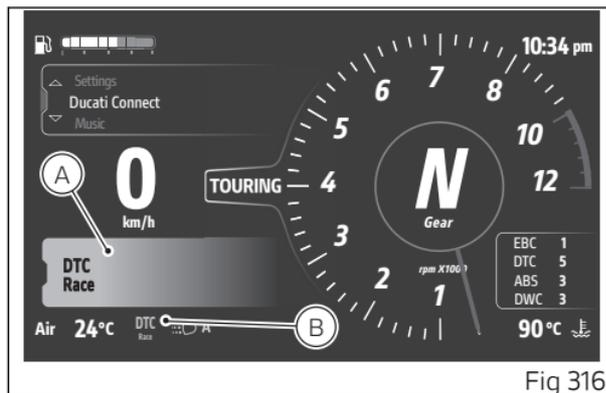
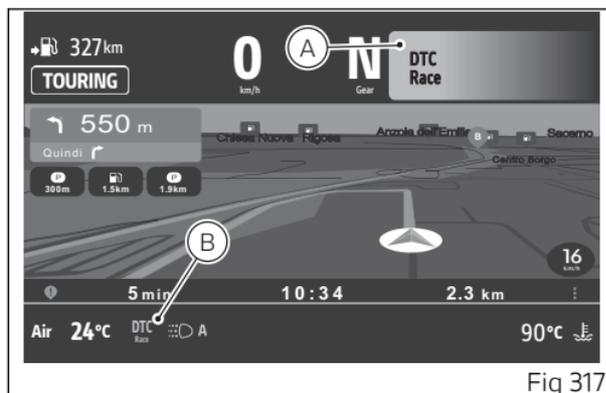

Fig 316
Fig 317
Active warnings or alarms are displayed in 2 modes: big (A) and small (B). These figures indicate the corresponding positions in the main page (Fig 316) and in the Ducati Connect page (Fig 317). In the following figures, the warnings are shown on the left in the large version and on the right in the small version.